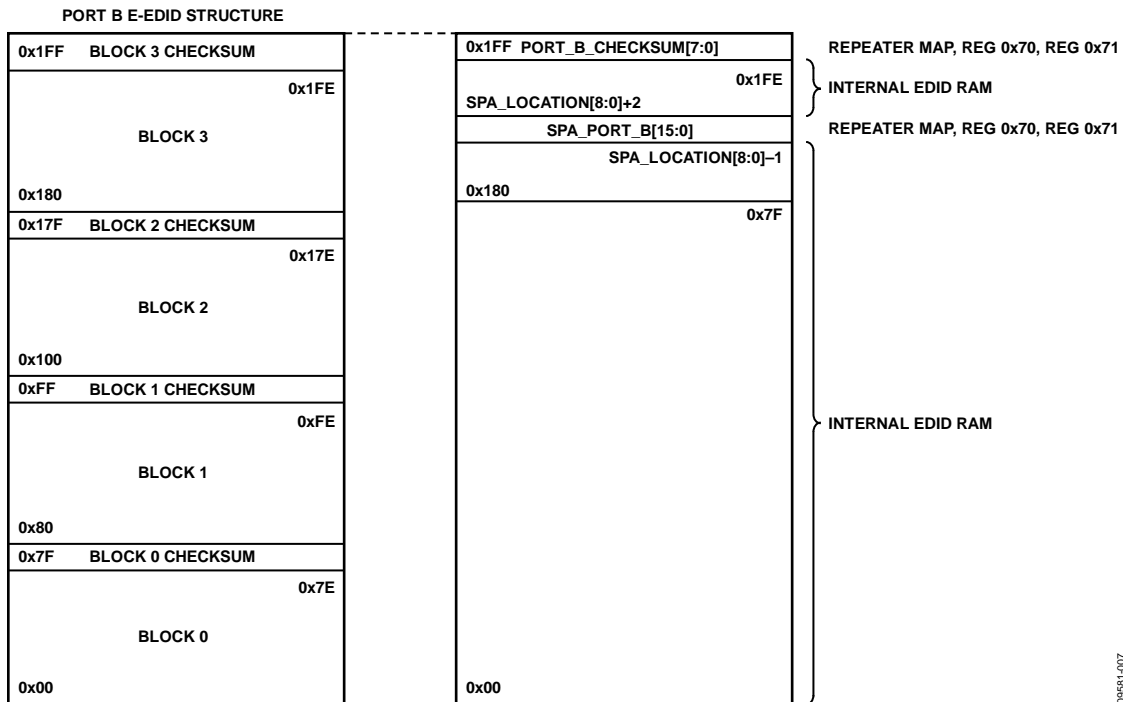

Figure 8. Port B E-EDID Structure and Mapping for SPA Located in E-EDID Block 3
- Figure 8—SPA located in E-EDIDBlock 3